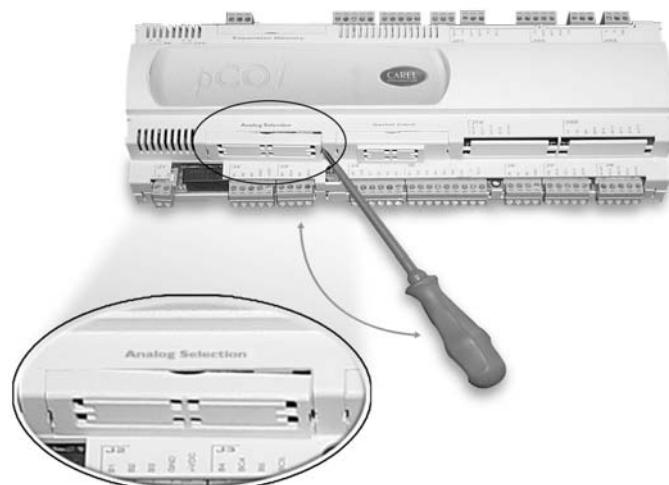

Fig. 1
1. Con un cacciavite, togliere lo sportellino "Analog Selection" del controllore elettronico (Fig. 1);
With reference to Figs. 1 to 4, the optional card is connected the pCO¹ according to the following procedure:
1. Using a screwdriver, remove the "Analog Selection" cover on the electronic controller (Fig. 1);